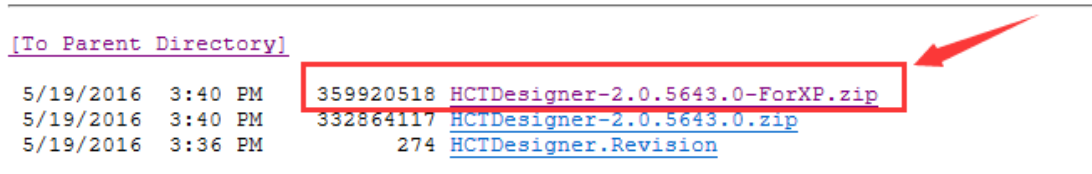

Fig. 6
according to the different operating systems (OS), as shown in Fig. 6.